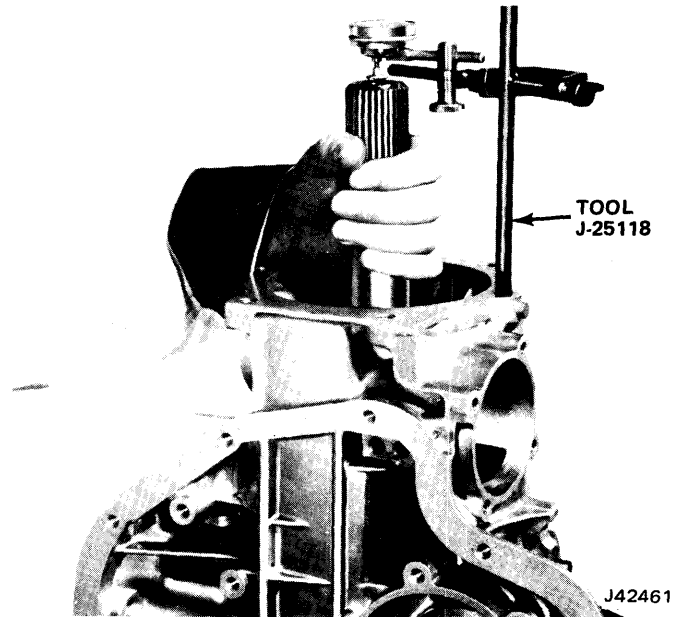

Fig. 7-32 Measuring Rear Unit End Play
- (1) Install rod from Tool J-25118 in extension housing attaching bolt hole.
- (2) Mount dial indicator on rod and position indicator so stylus contacts end of output shaft (fig. 7-32).
(3) Move output shaft inward and outward and measure end play. End play should be 0.007 to 0.019 inch. Selective washer that determines rear unit end play is steel washer with three lugs and is located between thrust washer and rear face of transmission case. If different washer thickness is required to adjust end play select it from following chart: